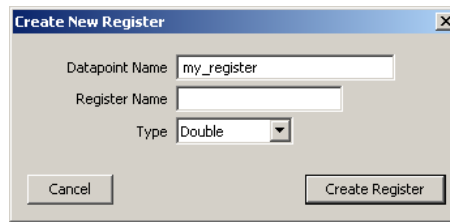

Figure 117: Create a user register.
2. Right-click in the data point list and select **New Datapoint...** in the context menu. This opens the register creation dialog as shown in Figure 117: Create a user register..